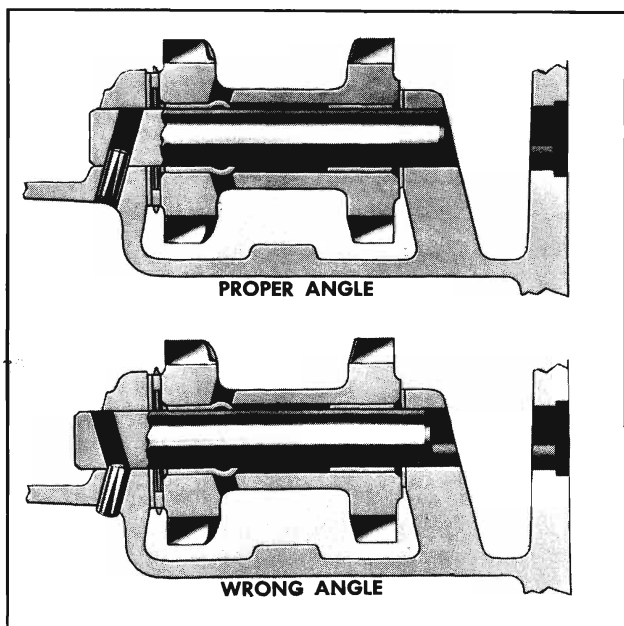

Fig. 7-43 Proper Lock Pin Installation
7. Install the reverse idler shaft from rear, making sure the lock pin hole in the shaft lines up with the hole in the case at the same angle (Fig. 7-43).